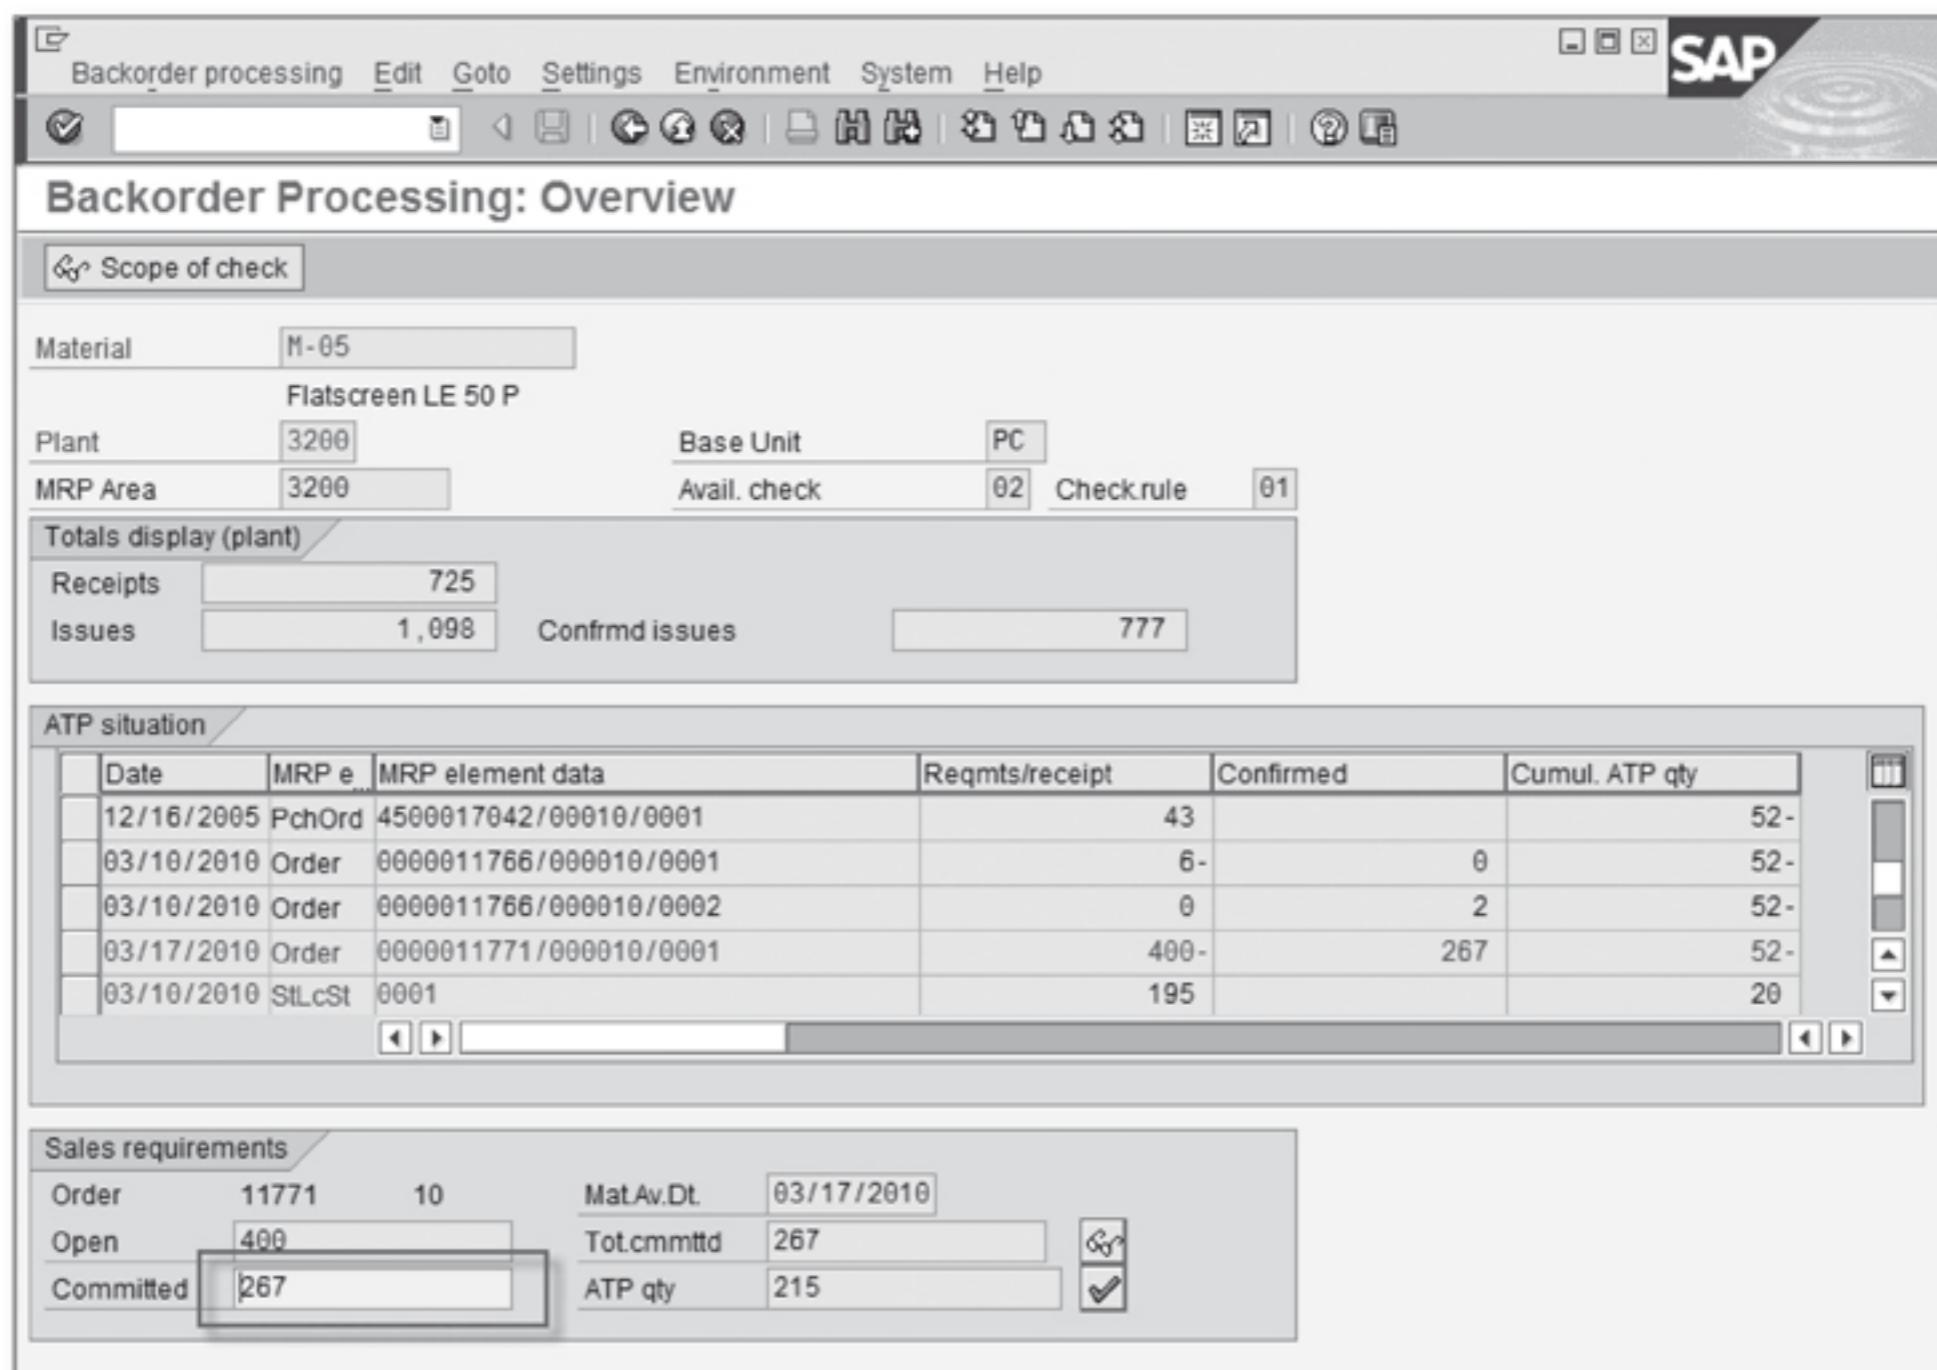

Figure 3.29 Backorder Processing Committed Qty Change
12. When you're satisfied with the updated committed quantities (Figure 3.29), press **Enter**, and you'll be returned to the Backorder Overview screen.